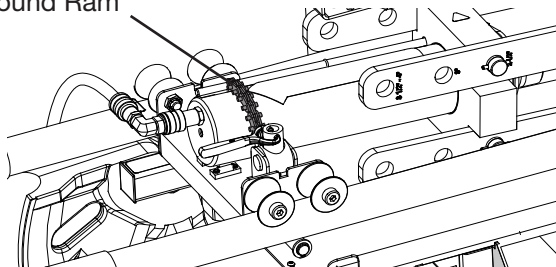

Figure 21
5. Clamp the ram body in the chain vise (Fig. 21). Do not use the 90° coupler as a handle or allow it to lay on the vise or the coupler could be damaged.